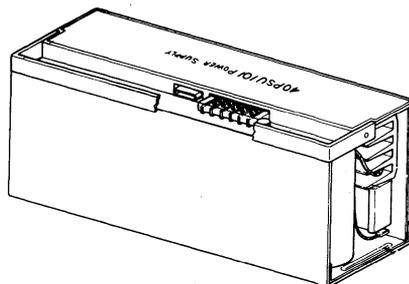
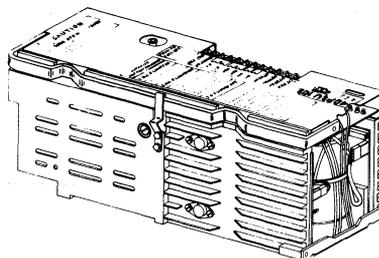

Fig. 1—40PSU101 Power Supply
Fig. 2—40PSU102 Power Supply
1.01 This section provides disassembly and reassembly information for recommended replacement components of the 40PSU101 DATASPEED 40 Power Supply (Fig. 1) and the 40PSU102 DATASPEED 40 Power Supply (Fig. 2).